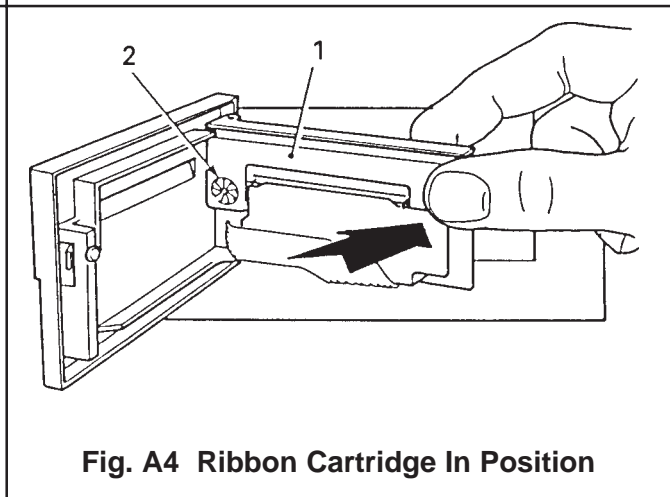

Fig. A4 Ribbon Cartridge In Position
- c Leaving printer door fully open, expose printer mechanism and ribbon cartridge (Fig. A4).